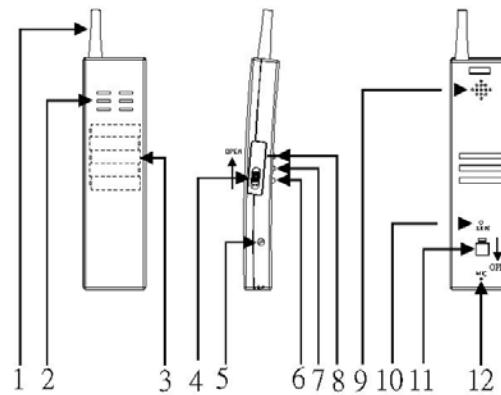
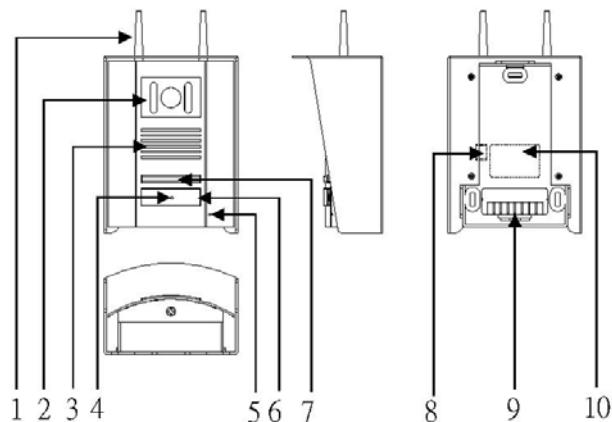

Fig.2
Fig. 3
Outdoor unit(Fig.3)	Handset (Fig.2)
LED indicator from the door station (see fig.2: point 4)
2. Basic mode with 6V access glass (not included in the set) See fig 3
3. Basic mode with 12V/24V (through 6V access glass) (6V access glass not included in the set) See fig.3
Following the wiring diagram (see fig.3), if 12/24V, door opening & Garage opening switch are available.
When 12V/24V is used, connect “-“ to GND and “+“ to the terminal AC/DC (see fig 3).